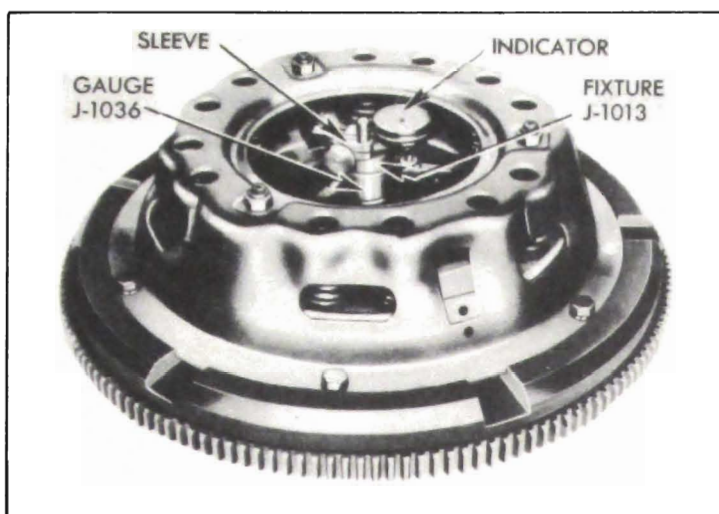

Figure 4-18—Release Lever Adjustment—1948 Series 70
9. Carefully place gauge fixture and indicator on machined hub of adjusting gauge so that indicator button is directly over inner end of one release lever. See figure 4-18. Adjust nut on re-